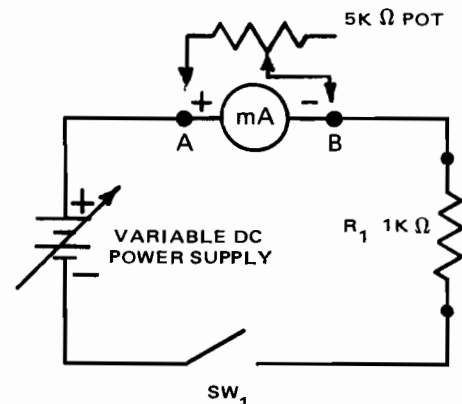

Fig. 8-1-1
1. Connect meter resistance test circuit shown in Fig. 8-1-1. Do not turn on circuit switch at this time.